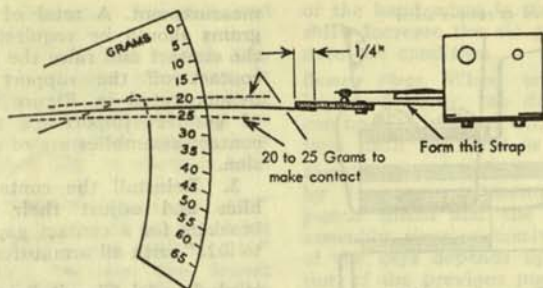

Figure 25. Interposer Bail Contact Adjustment
1. With the contact assemblies removed, form the operating strap near the mounting to require 20 to 25 grams to close the contacts (Figure 25). Place the gram gage finger under the phenolic pad with $1/4''$ overlap when checking the adjustment.